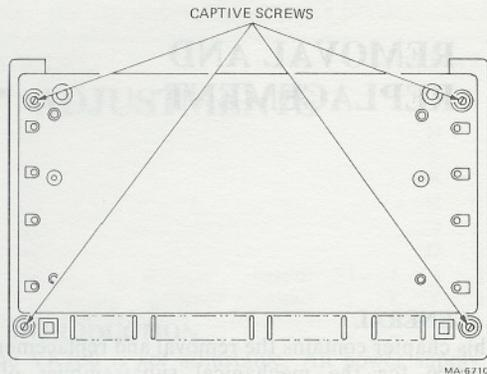

Figure 5-2 VK100 Terminal (Bottom View)
3. Loosen the four (4) captive screws at the corners of the terminal (Figure 5-2). The screws may be loosened with either a nutdriver or a blade-type screwdriver.